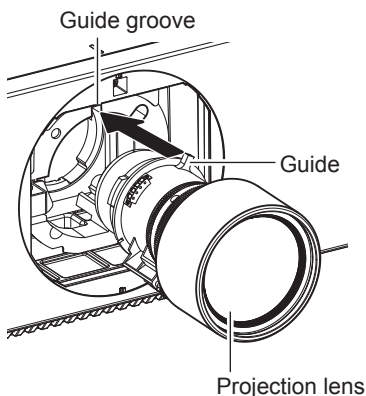

Fig. 1
- 1) Remove the lens mount cover, and align the projection lens guide to the guide groove of the projector and insert to the end. (Fig. 1)